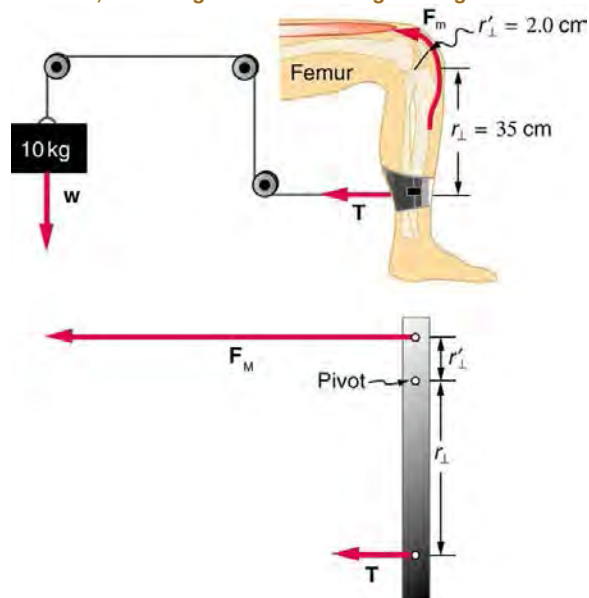

Figure 9.39 A mass is connected by pulleys and wires to the ankle in this exercise device.
29. A device for exercising the upper leg muscle is shown in **Figure 9.39**, together with a schematic representation of an